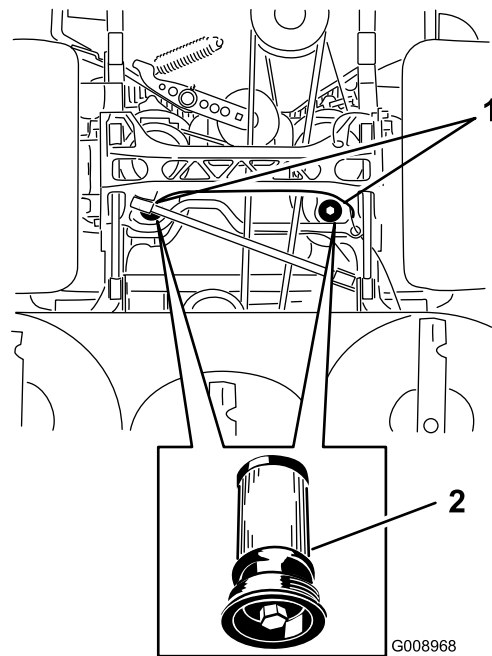

Figure 88
5. Place a drain pan under the filter, remove the old filter, and wipe the surface clean (Figure 88).
6. Apply a thin coat of hydraulic fluid to the rubber gasket on the replacement filter (Figure 88).